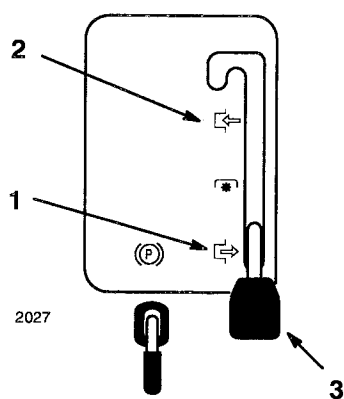

Figure 5
2. Move the blade control (PTO) to "ENGAGED" (Fig. 5).
2. Move the blade control (PTO) to "DISENGAGED" (Fig. 5).